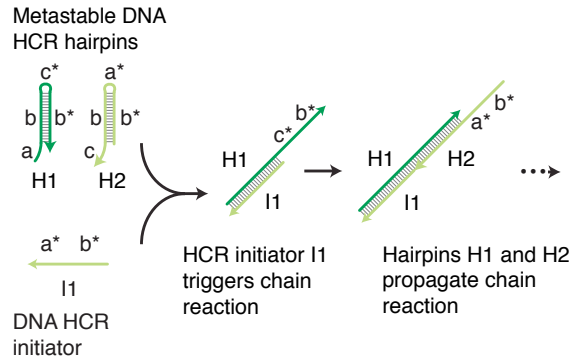

Figure 1: Conditional self-assembly via hybridization chain reaction (HCR).
**Problem 1** (Equilibrium analysis of a complex of interacting nucleic acid strands, 15 pts). Consider the hybridization chain reaction (HCR) mechanism of Figure 1 (*Proc Natl Acad Sci USA* **101**, 15275–15278, 2004), in which metastable DNA hairpins H1 and H2 polymerize upon exposure to initiator sequence I1. Note that each hairpin is intended to have a 6-nt toehold, an 18-bp stem, and a 6-nt loop.